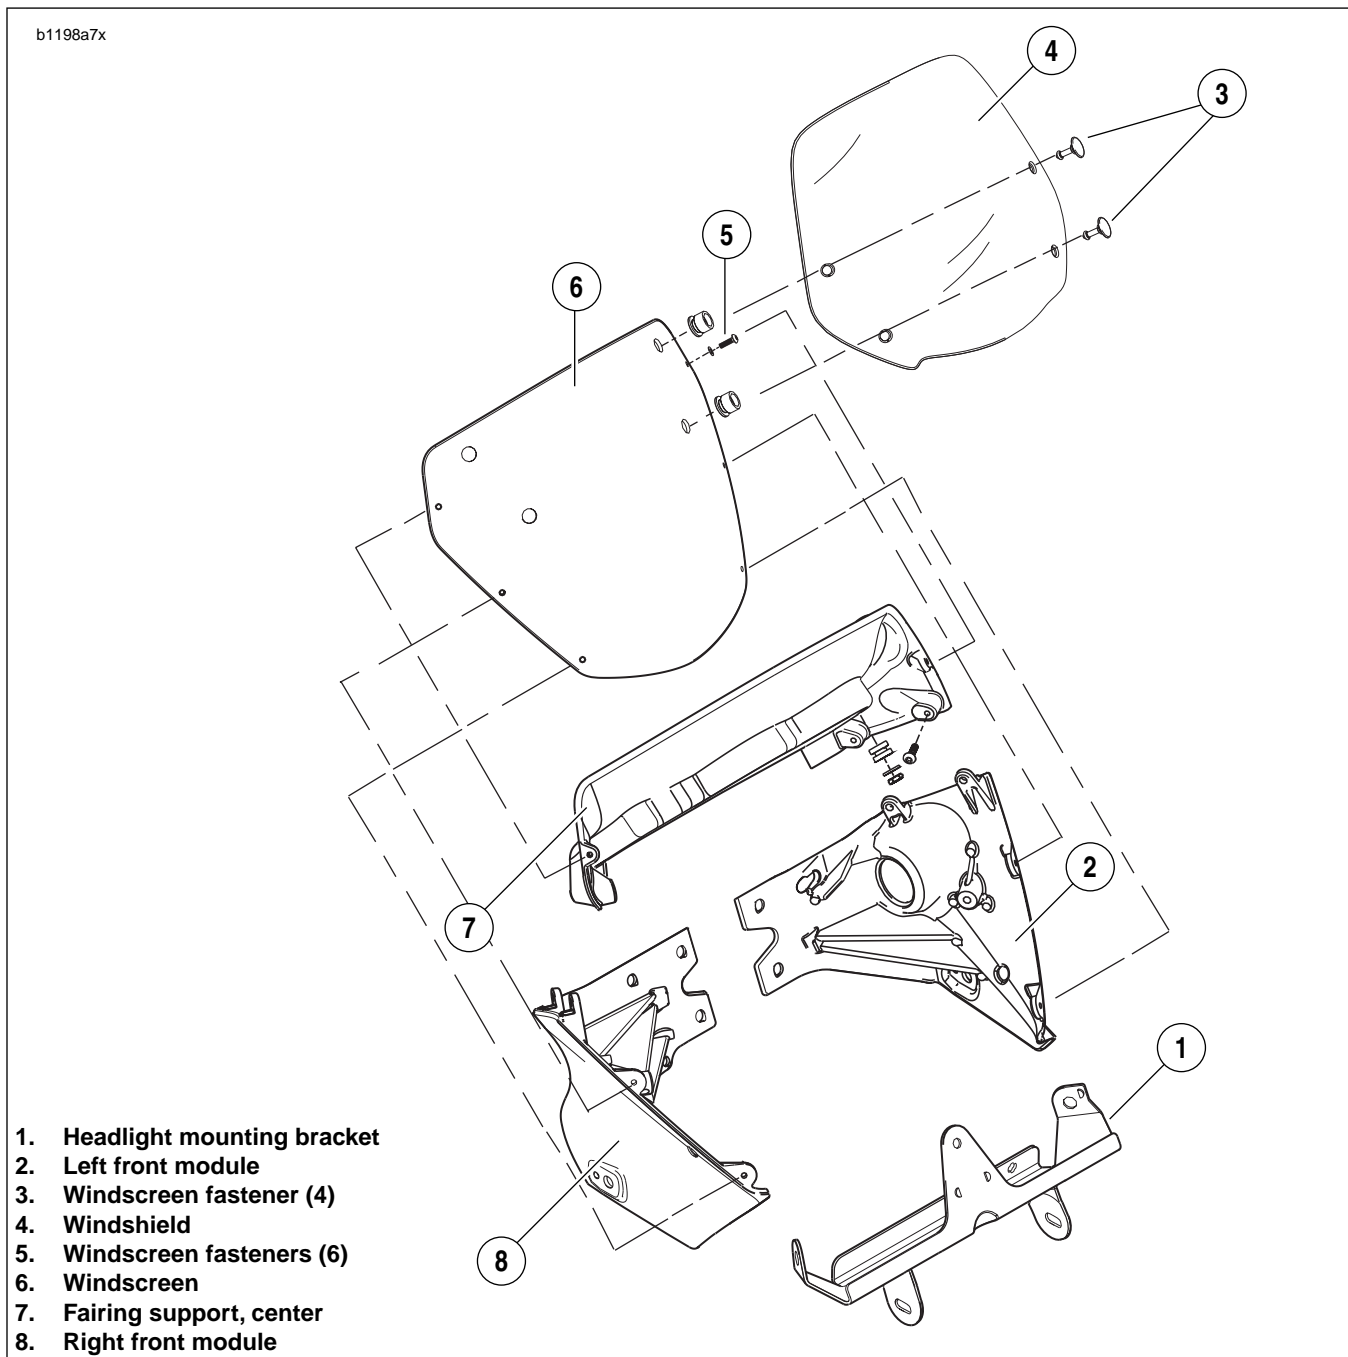

Figure 2-134. Flyscreen and Windscreen
- The windscreen fastens into the left and right front modules (2, 8) and the center fairing support (6).
1. See Figure 2-134. Remove windshield (4) by pulling loose from windscreen (6).
2. Remove six windscreen fasteners (5).
3. Remove windscreen (6).
1. See Figure 2-134. Position windscreen (6) onto left and right front modules (2, 8) and the center fairing support (6).
3. Install windshield (4) by pushing into place. Pull on windscreen when installed to verify attachment.